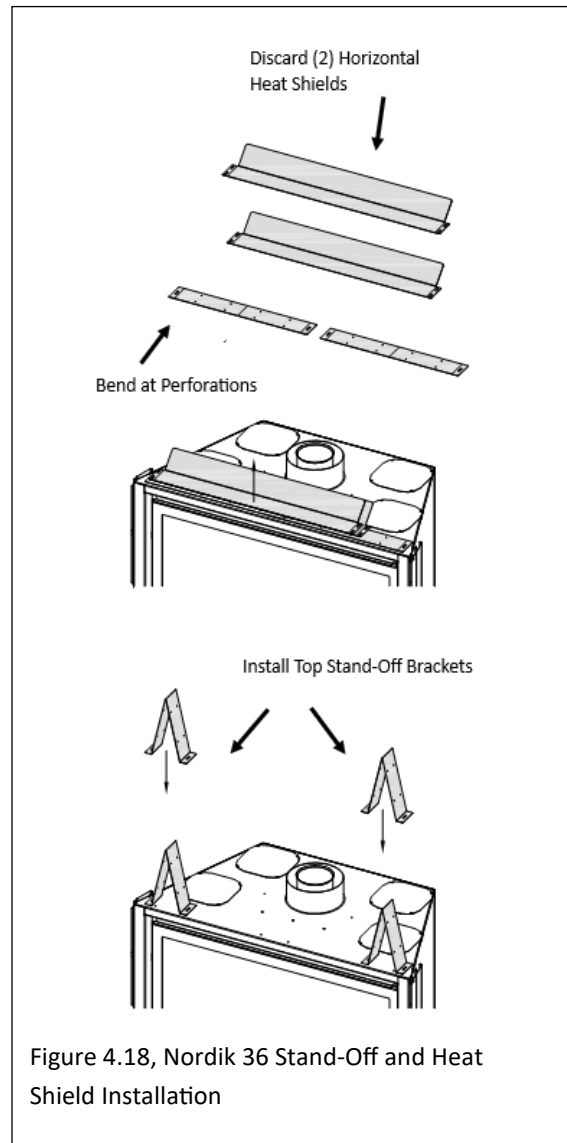

Figure 4.18, Nordik 36 Stand-Off and Heat Shield Installation
7. Install stand-off assembly on top of the appliance. See Figure 4.18. Remove and save (4) screws securing stand-off heat shields and stand-off brackets on top of the fireplace. Form each top stand-off bracket by bending at perforations, as shown. Align the holes in the formed top stand-offs with the holes in the fireplace top. Secure with the (4) screws previously removed along with (4) screws located on top of the fireplace.
8. Discard the (2) horizontal heat shields.
11. Attach the piping from all (4) plenum take off collars to all (4) take off collars on the fireplace. If you are mounting the plenum 10' or less above the fireplace, use (1) #KZK-410-6 kit or UL-181 Class 0 approved air duct. If you are mounting the plenum between 10' to 20' above the fireplace then you will need (2) #KZK-410-6 kits and #KZK-CPL6 or UL-181 Class 0 approved air duct.
13. Install the air grilles provided with the kit using (4) screws total.